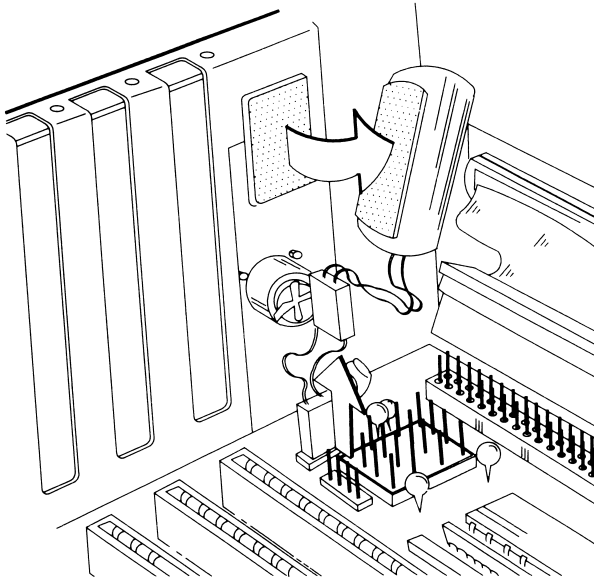

Figure 7-24. Removing the Battery.
3. Remove the battery connector from the system board (Figure 7-24).
4. Remove the battery from the system unit (Figure 7-24).